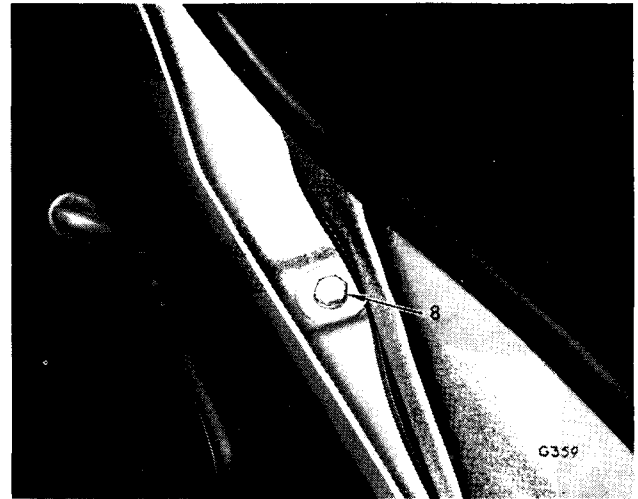

Fig. 6. Freight floor mounting points
Two to the rear of the seats (8), Fig. 6;